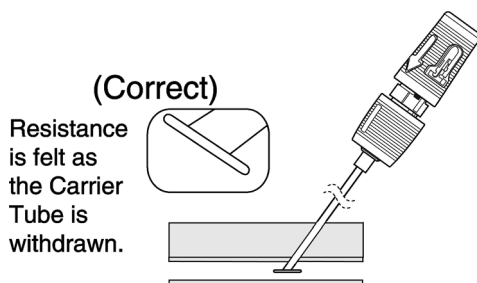
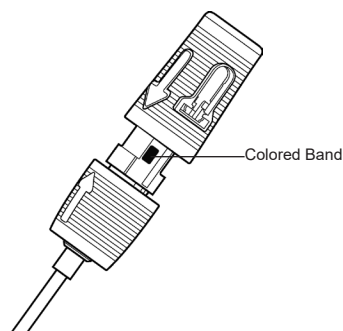
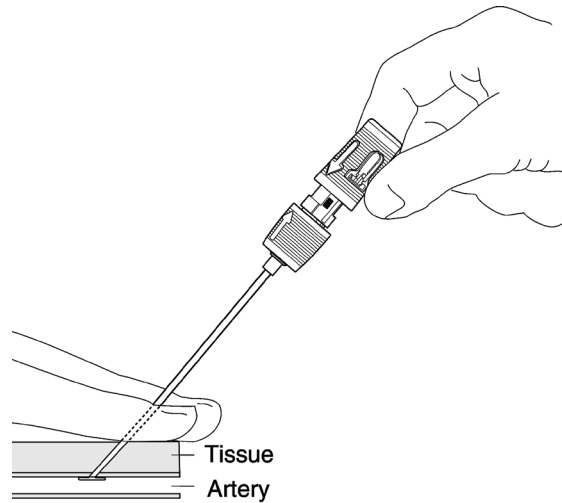

Fig. 9 (Correct)
Fig. 10
Fig. 12
5. Maintain grip on the insertion sheath and pull the device handle straight back into the full rear locked position (Figure 10). Resistance will be felt as the device handle and sleeve snap lock. The device sleeve colored bands should now be completely visible.
NOTE: Do not proceed until you are certain that the anchor has been properly deployed (Figure 9). If the anchor is improperly deployed, the Angio-Seal device will not function.
1. Once the anchor has been deployed correctly (Figure 9), and the device cap has been locked into the rear position (Figure 10), slowly and carefully withdraw the device/sheath assembly along the angle of the puncture tract to position the anchor against the vessel wall (Figure 12).